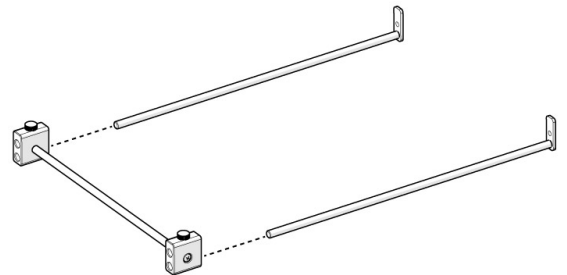

Figure 6. Panel extension poles
Step 2. Insert the two straight panel extension poles into the bottom holes of the adjustment blocks (see Figure 6).